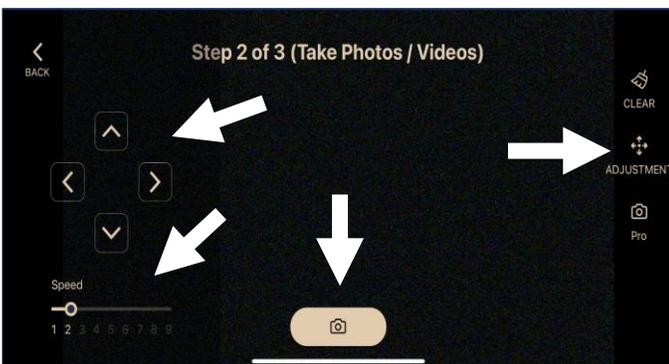

Fig. 4.12
- 5. Reframing:** If you wish to frame your target differently, or the centering is not exact, use the manual telescope controls to adjust the telescope position. See Fig. 4.12.